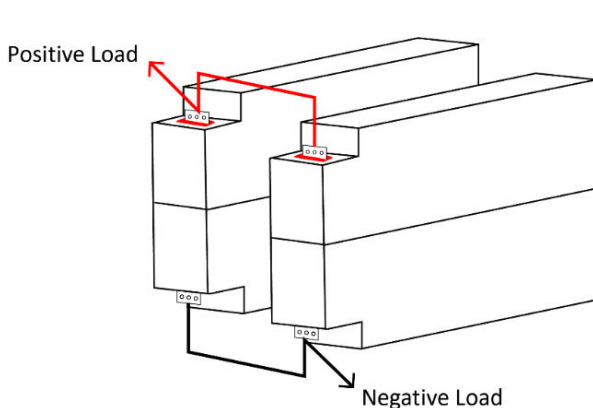
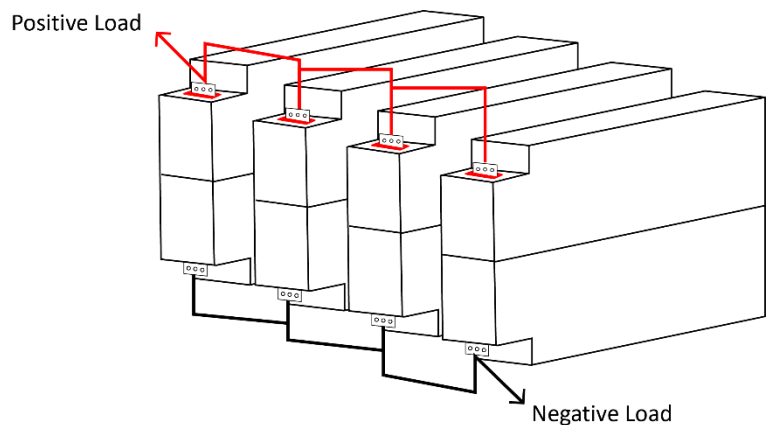

Figure 3.1: Two GC3 Batteries connected in Parallel to create a 12V 540Ah Battery Bank
Figure 3.2: Four GC3 Batteries connected in Parallel to create a 12V 1,080Ah Battery Bank
7. Repeat steps 3-6 for additional batteries in the system. An example of a finished connection can be found below in Fig. 3.1 and Fig. 3.2